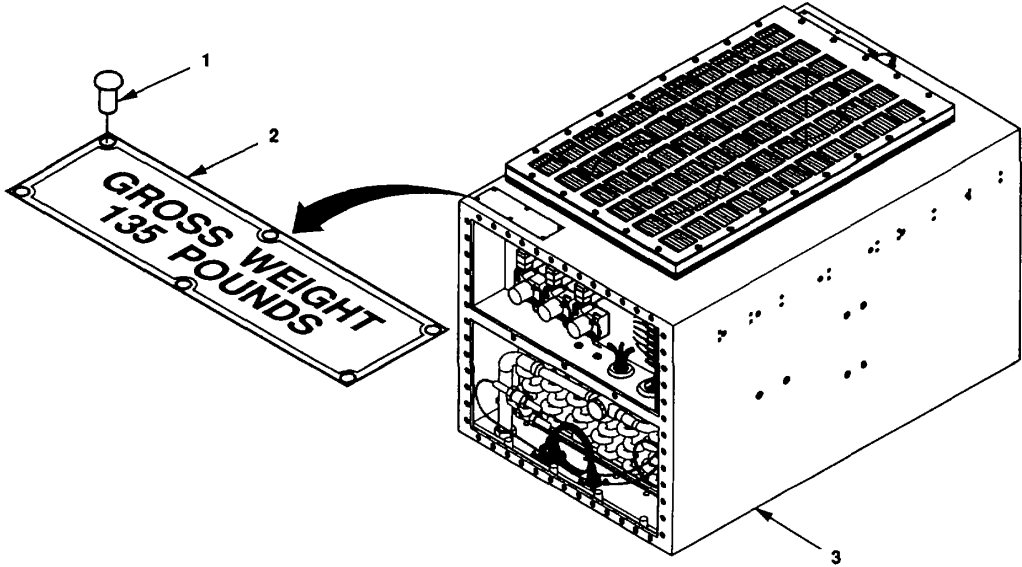

Figure 4-6. Data Plate Replacement.
**a. Remove.** Remove six rivets (Figure 4-6, 1) and data plate (2). Discard rivets (1).